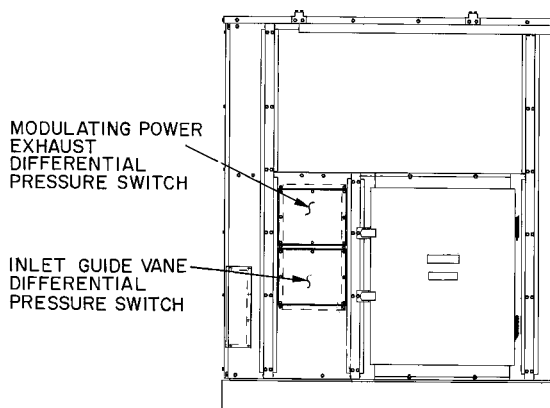
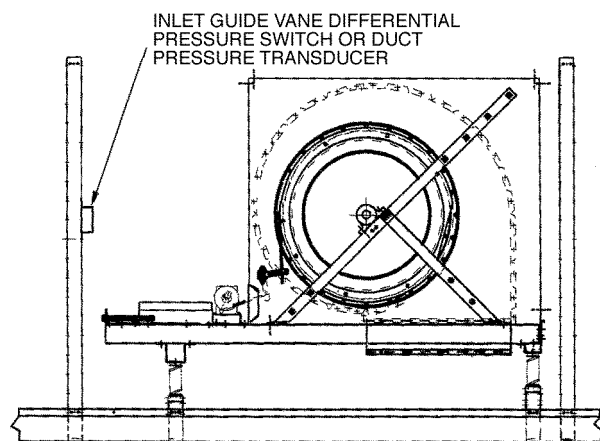

Fig. 33 — Modulating Power Exhaust and Inlet Guide Vane Differential Pressure Switch (Sizes 034-048)
Fig. 34 — Inlet Guide Vane Differential Pressure Switch and Variable Frequency Drive (Sizes 054-104)
The inlet guide vanes are controlled by a differential pressure switch (DPS). On sizes 034-048, the DPS is located in the auxiliary control box at the economizer end of the unit (see Fig. 33). On sizes 054-104, the DPS is located in the supply fan section. See Fig. 34. Use a nominal $\frac{3}{8}$ -in. plastic tubing.
The duct pressure is sensed by a pressure transducer. The pressure transducer output is directed to the VFD. On 034-048 units the DP transducer is located in the auxiliary control box. On 054-104 units, the DP transducer is located in the supply fan section. See Fig. 34. Use a nominal $\frac{1}{4}$ -in. plastic tubing.
A differential pressure switch (DPS) is used to control the actuator on the modulating discharge damper in exhaust fan no. 1. The building pressure (BP) DPS is located in the auxiliary control box of the unit. See Fig. 33 and 35. Use a nominal $\frac{3}{8}$ -in. plastic tubing.